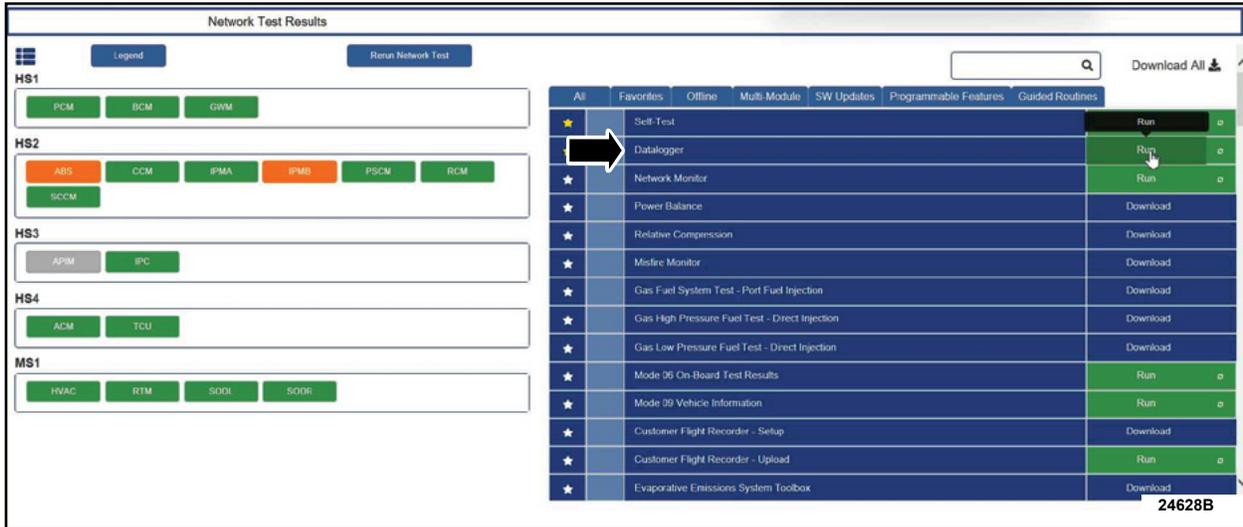

FIGURE 3
10. On the RH side of the screen locate Datalogger and select **RUN**. See Figure 3.